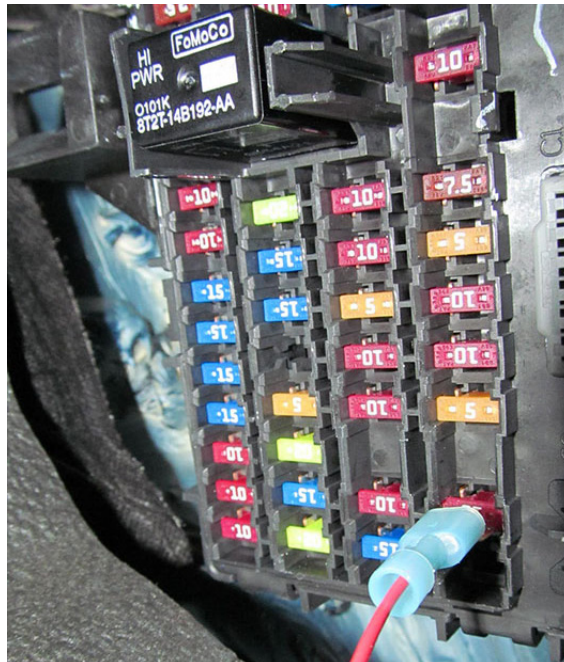

Figure 6 – Fuse tap with quick disconnect
3. Attach the Red/Continuous power wire using a fuse tap and a quick disconnect of the appropriate size, depending on fuse (Figure 6).